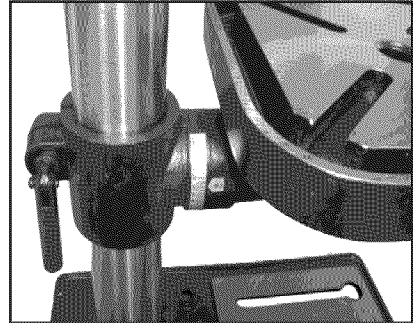

Figure 10
- Rotate table to desired angle right or left. Use bevel scale for precise setting. **See Fig. 10**